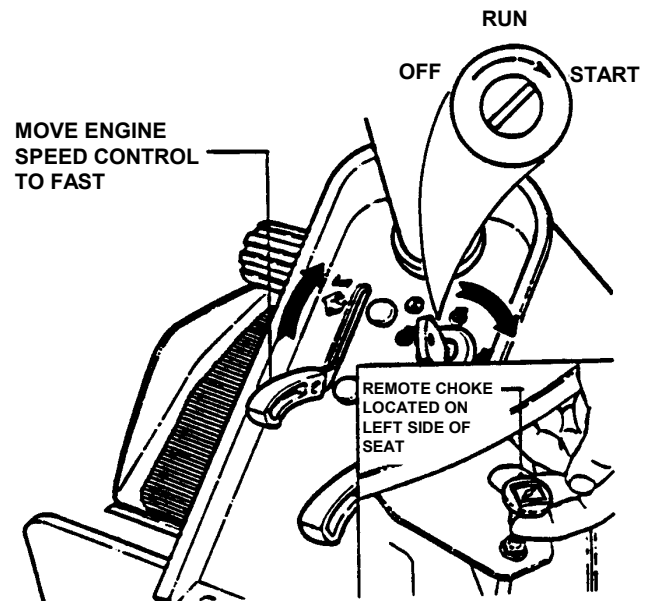

FIGURE 2.7
5. Move engine speed control to the "FAST" position and pull choke "OUT" to start a cold engine. See Figure 2.7.
6. Turn key to the "START" position until engine starts. See Figure 2.7. **NOTE:** If after 5 seconds of cranking the engine and it does not start, release the key, make sure the Clutch/Brake Pedal is fully depressed and attempt starting again after waiting for approximately 20 seconds.
5. Move engine speed control to the medium position and the choke control is in the choke position to start a cold engine. See Figure 2.7.